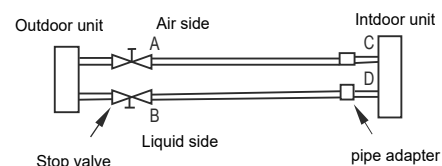
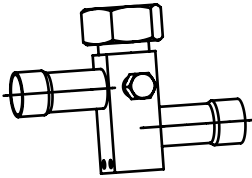

Fig.6-2
Fig. 6-3
- Use the refrigerant in the outdoor unit to expel air(see Fig.6-2 and Fig. 6-3)
- Use refrigerant tank to expel air (see Fig. 6-2 and Fig. 6-3)